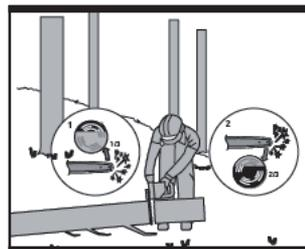

Fig. 27
- When the log is supported on both ends, as illustrated, cut 1/3 the diameter from the top overbuck. Then make the finished cut by underbucking the lower 2/3 to meet the first cut. (See Fig. 27)